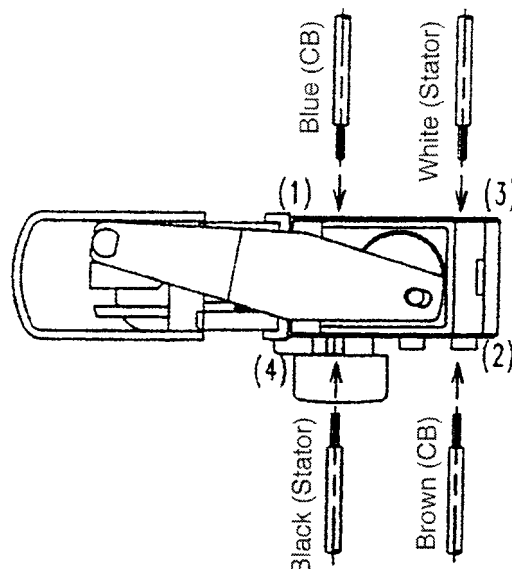

Fig. 29 Wiring of reversing switch
(1) Wiring of reversing switch
Insert the lead wire (black) coming from the stator into the terminal (4) of the reversing switch, and the lead wire (white) into the terminal (3) as shown in Fig. 29. Insert the lead wire (brown) coming from the carbon brush or choke coil into the terminal (2) and the lead wire (blue) into the terminal (1). After the insertion, pull each lead wire slightly to check the lead wires do not come off. To disconnect the lead wires, insert a small flat-blade screwdriver into the windows near the terminals and pull out the lead wires.